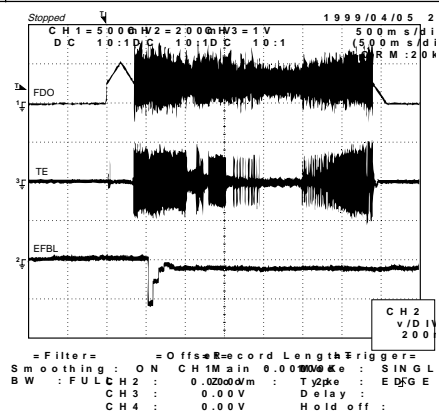

Figure 11-2
- (1) Offset adjustment (The offset voltage between the head amplifier output and the VREF reference voltage is compensated inside the IC.)
- (2) Tracking balance adjustment (waveform drawing Fig.11-2 EFBL)
- (3) Gain adjustment (The gain is compensated inside the IC so that the loop gain at the gain crossover frequency will be 0 dB.)